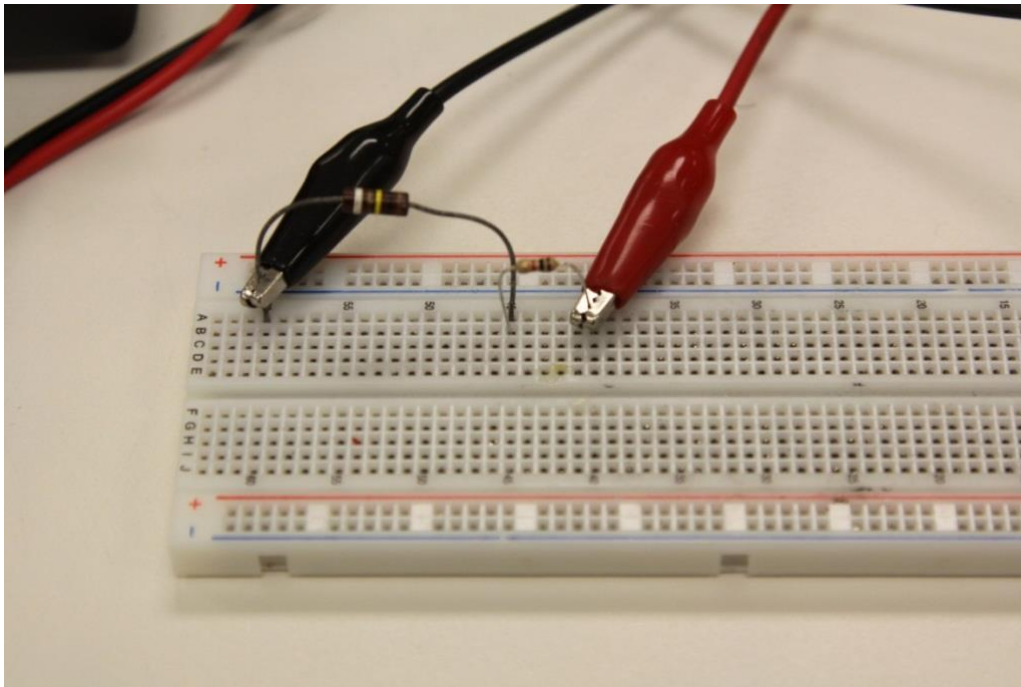

FIGURE 1-2. RESISTORS CONNECTED IN SERIES ON PROTO-BOARD
3. Pick two resistors that are approximately two orders of magnitude different e.g. 22  $\Omega$  and 2,200 (See Figures 1-2, 1-3, and 1-4. Do not exceed  $R_{ref}$  by a factor of 10)